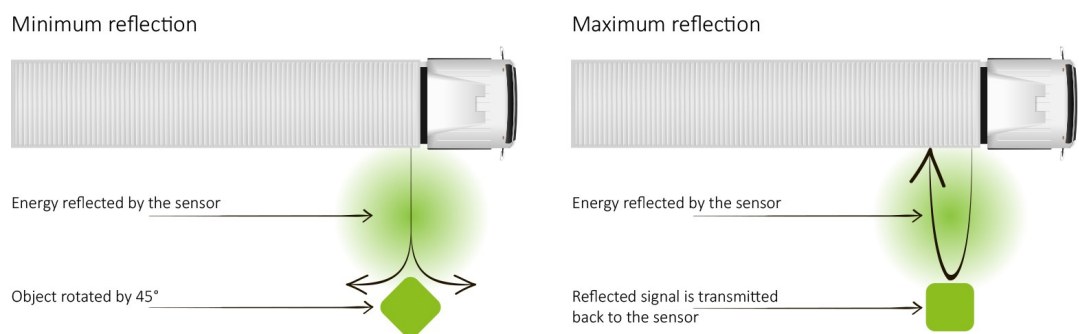

Fig. 1: Object reflection
- Angle – the flat side of an object perpendicular to the sensor will reflect more energy than an object at an angle. See Fig. 1 for an example of how angle can affect return energy.